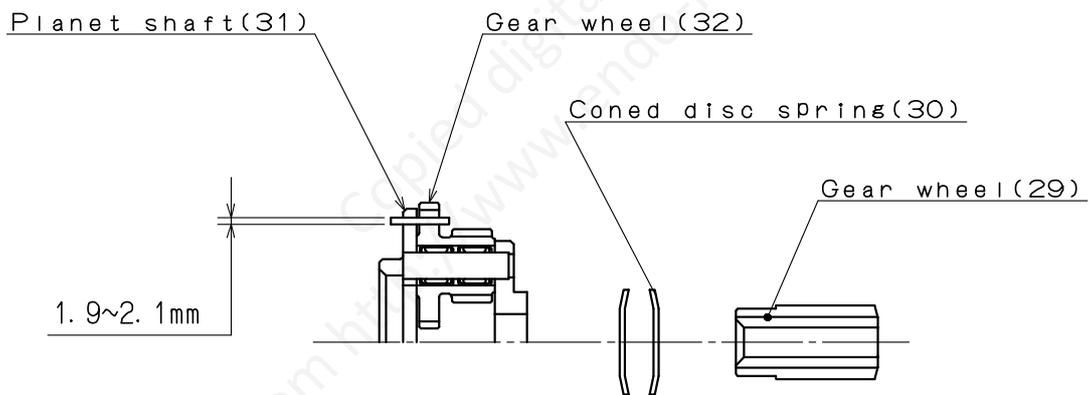

Fig.20
See Fig. 20 for the setting direction of Coned disc springs(30).
-a) Fix Gear wheels(32) to Planet shaft(31).
-b) Fix Gear wheels(32) onto Planet shaft(31) by inserting the pins into the holes of Planet shaft and Gear wheels respectively (See Fig. 20).
-c) With Gear wheel(32) fixed, insert Planet shaft(31) in Casing(1).